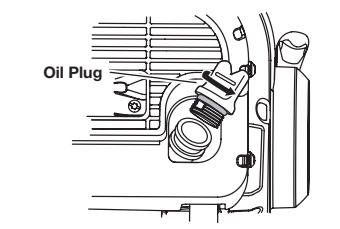

Fig. 5
- With the unit on a flat level surface, remove the oil plug (Fig. 5).